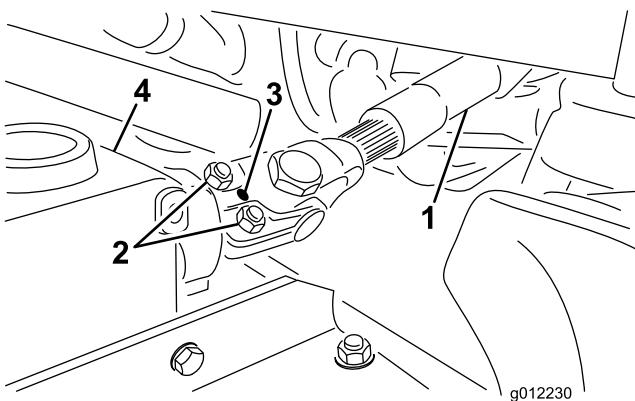

Figure 4
- Remove the roll pin from the end yoke and the gearbox shaft (Figure 4).
- Loosen the (2) capscrews and locknuts (Figure 4).
- Secure the end yoke of the PTO drive shaft to the gearbox shaft with the roll pin (Figure 4).
- Tighten the locknuts to secure the end yoke to the gearbox shaft (Figure 4). Torque the locknuts to 20 to 25 N·m (175 to 225 in-lb).